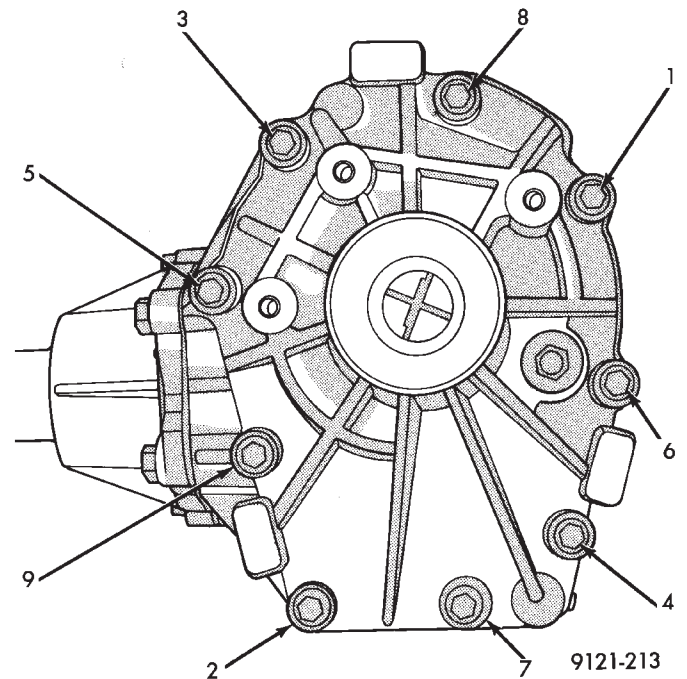

Fig. 9 Bolt Tightening Sequence
(3) Lubricate seal lip after installing seal into input shaft.
(4) Clean sealing surfaces of the end cover and P.T.U. case. Apply a bead of Mopar® Gasket Maker, Loctite Gasket Eliminator No. 518 or equivalent.
(5) Place end cover onto P.T.U. case and install bolts. Tighten bolts to 28 N•m (250 in. lbs.) in the sequence shown in figure 9. Retighten first bolt after all others are tight.